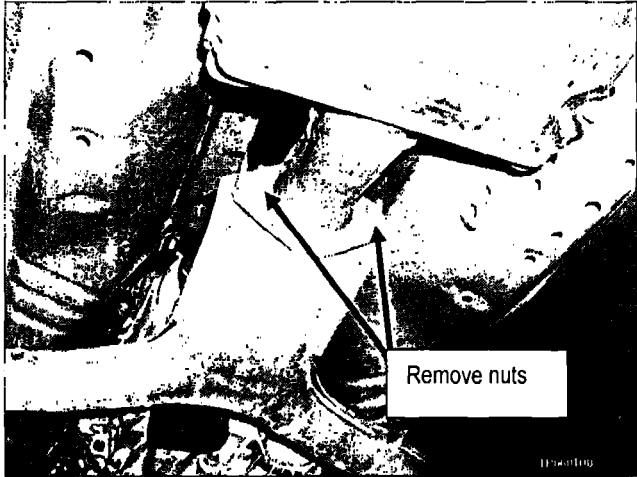

Figure 17
- 21. Remove the exhaust system center tube front nuts (see Figure 17).